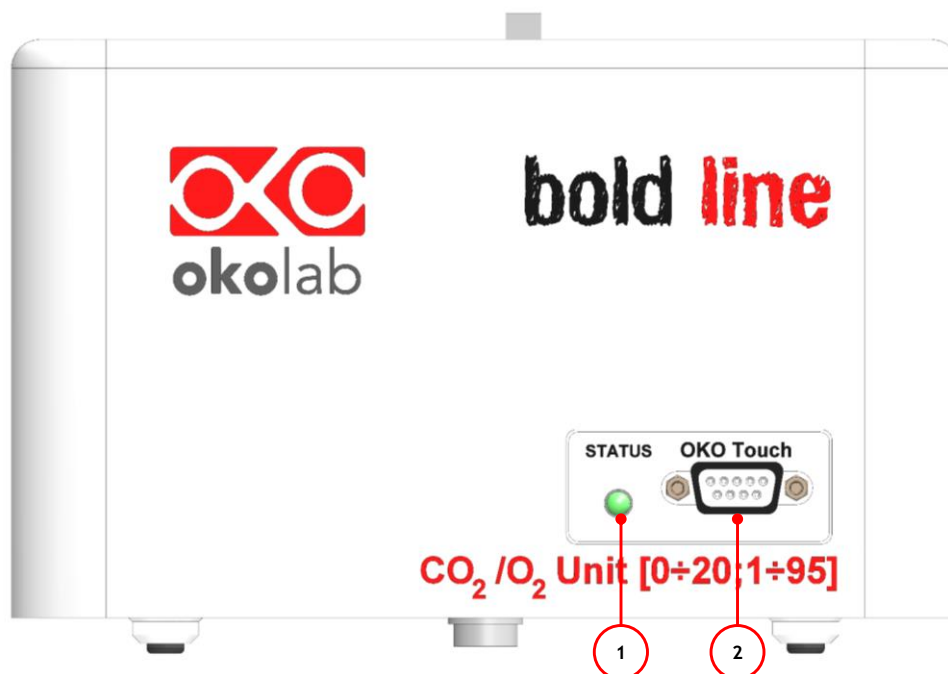

Figure 4. Gas Controller Front Panel Overview.
Figure 4 illustrates CO2-O2-UNIT-BL [0-20; 1-95] front panel:
10. To switch CO2-O2-UNIT-BL [0-20; 1-95] on use the power button on OKO-TOUCH. The Status LED (1 in Figure 4) on the front of CO2-O2-UNIT-BL [0-20; 1-95] will turn green.